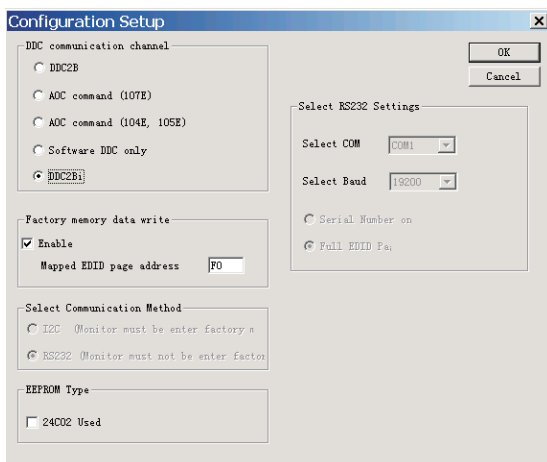

Fig. 29
- Select the DDC2Bi as the communication channel. As shown in Fig. 29.